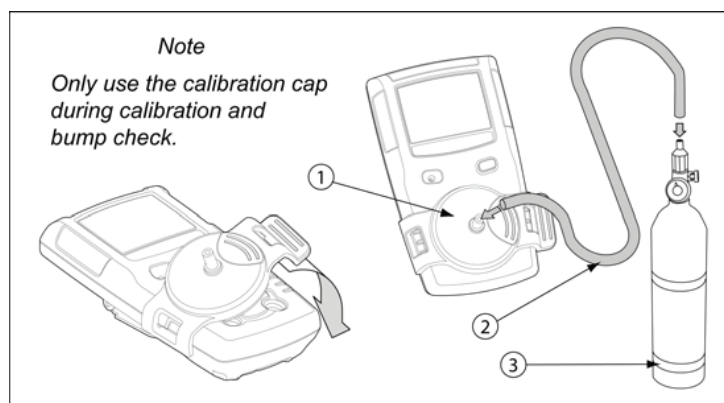

Figure 7. Connecting the Gas Cylinder to the Detector
Refer to the following Figure 7., Table 11., and procedures to connect the gas cylinder to the detector for calibration.
5. Attach the calibration cap to the detector. Refer to Figure 7. Open the valve on the regulator and apply gas at a flow rate of 250-500 ml/min.